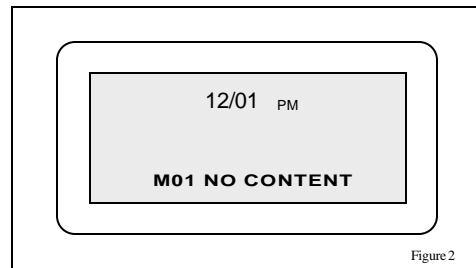

Figure 2
2. Next, press the **speed dial location key** where the desired location will be. The display will read “Mxx NO CONTENT”. If the display shows a record, then there is a stored name and number in that location (figure 2).